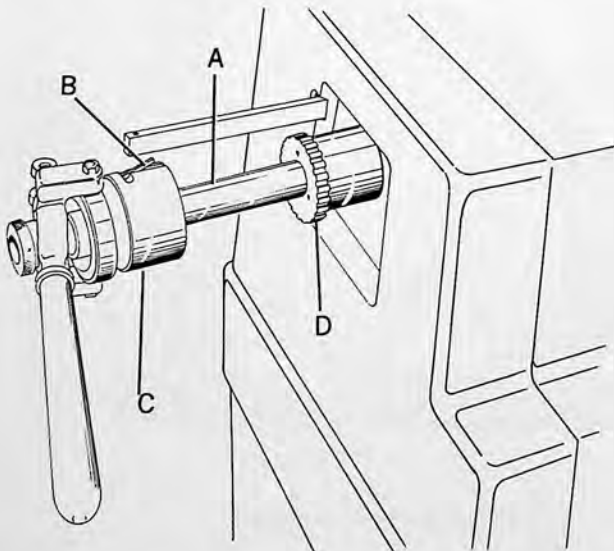

FIGURE 5
7. Slide collet tube (A, figure 5) into spindle, lift key (B) and locate housing (C) over adjusting nut (D). Depress key into nearest groove in adjusting nut.